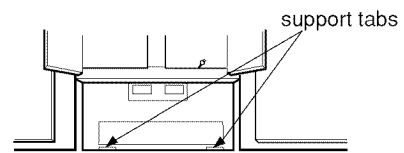

Figure 26
3. Place the mounting plate against the wall and match the screw holes. See Figure 26.
1. Carefully lift microwave oven and hang it on support tabs (See Figure 26) at the bottom of the mounting plate. Reaching through upper cabinet, thread power supply cord through the power supply cord hole in the bottom of the upper cabinet. See Figure 30.